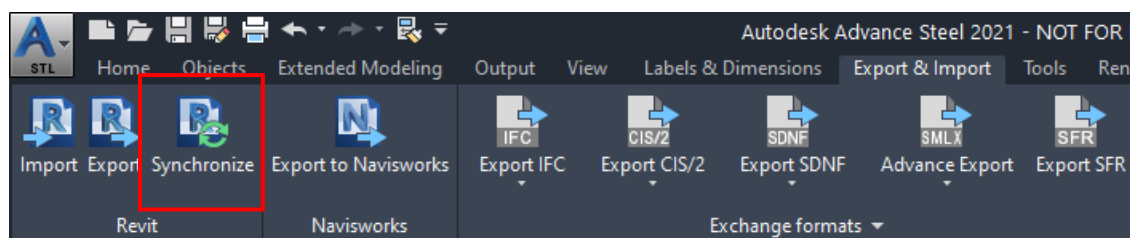

FIGURE 25: SYNCHRONIZING THE AUTODESK REVIT MODEL
1. In Advance Steel, from the **Export & Import** ribbon tab > **Revit** ribbon panel, click **Synchronize**, as shown in Figure 25.